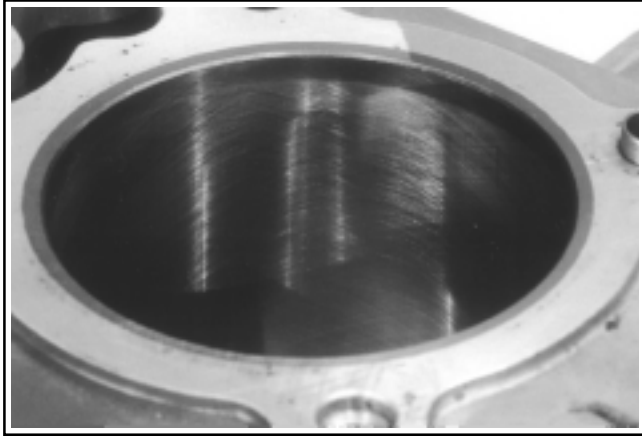

Figure 10-3. Cylinder Bore Crosshatch after Honing.
3. When the bore is within **0.064 mm (0.0025 in.)** of desired size, remove the coarse stones and replace with burnishing stones. Continue with the burnishing stones until within **0.013 mm (0.0005 in.)** of desired size and then use finish stones (220-280 grit) and polish to final size. A crosshatch should be observed if honing is done correctly. The crosshatch should intersect at approximately 23-33° off the horizontal. Too flat an angle could cause the rings to skip and wear excessively, too steep an angle will result in high oil consumption (refer to Figure 10-3).